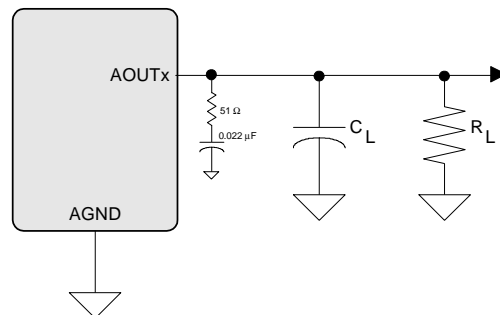

Figure 3. Headphone Output Test Load
(Test conditions (unless otherwise specified): Input test signal is a full-scale 997 Hz sine wave; measurement bandwidth is 10 Hz to 20 kHz; Sample Frequency = 48 kHz and 96 kHz; test load $R_L = 10\text{ k}\Omega$, $C_L = 10\text{ pF}$ for the line output (see Figure 3), and test load $R_L = 16\ \Omega$, $C_L = 10\text{ pF}$ (see Figure 3) for the headphone output. HP_GAIN[2:0] = 011.)
Test conditions (unless otherwise specified): Input test signal is a full-scale 997 Hz sine wave; measurement bandwidth is 10 Hz to 20 kHz; Sample Frequency = 48 kHz; test load $R_L = 10\text{ k}\Omega$, $C_L = 10\text{ pF}$ (see Figure 3).
Test conditions (unless otherwise specified): Input test signal is a full-scale 997 Hz sine wave; measurement bandwidth is 10 Hz to 20 kHz; Sample Frequency = 48 kHz; test load $R_L = 16 \Omega$, $C_L = 10 \text{ pF}$ (see Figure 3).
- See Figure 3. R_L and C_L reflect the recommended minimum resistance and maximum capacitance required for the internal op-amp's stability and signal integrity. In this circuit topology, C_L will effectively move the band-limiting pole of the amp in the output stage. Increasing this value beyond the recommended 150 pF can cause the internal op-amp to become unstable.